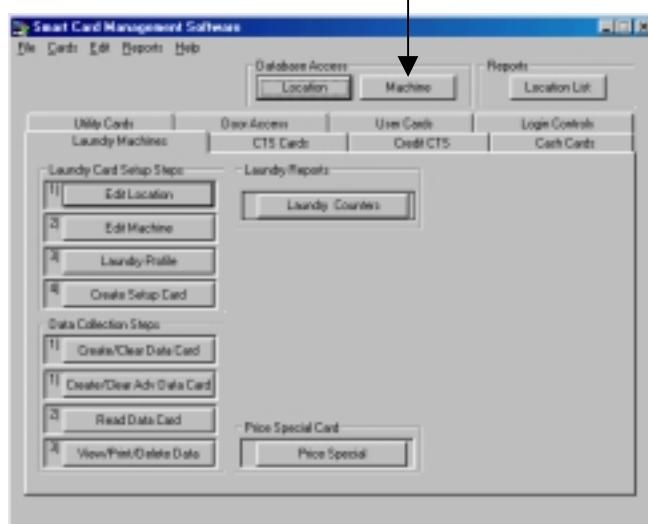

Figure 3.5 Opening the Machine Manager
1. Click **Machine** in the main dialog box (Figure 3.5).